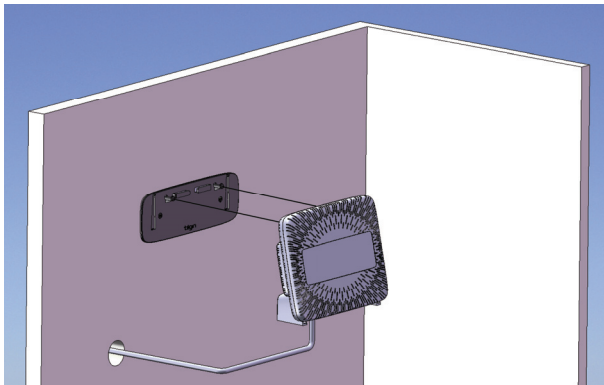
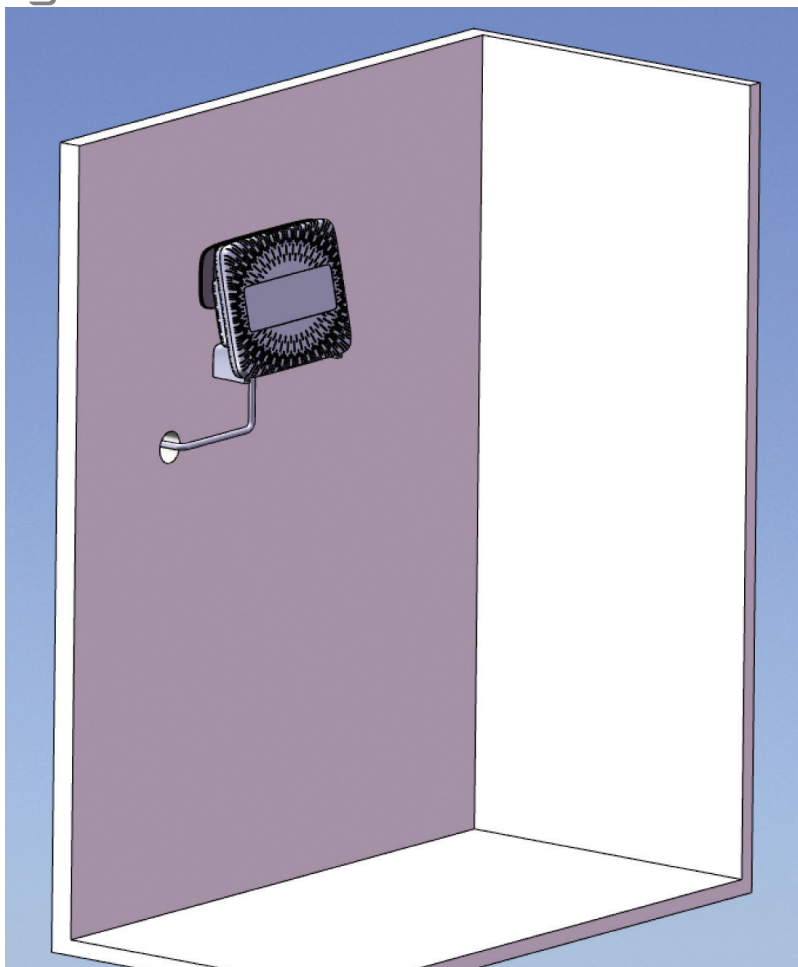

Fig. 5
Fig. 6
4. Hang the device on the foot stand/wall bracket hooks. Fig 5 and Fig 6